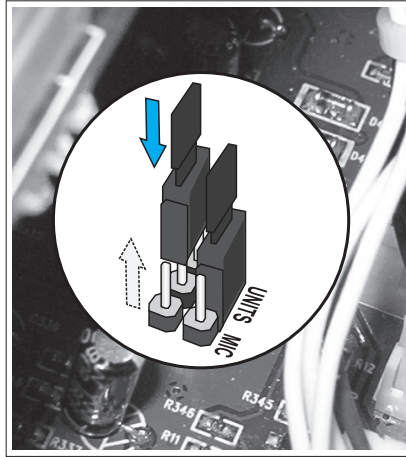

Fig. 4.10.1
- 2) Locate the two jumpers illustrated in Figure 4.10.1 and move them out of MIC position (factory default) to UNITS position: this will allow the audio signal coming from the microphone stations connected to the IN UNITS (22) socket to be diverted to output socket MIC.3.
- 3) Connect the 0V terminal of the amplifier to an external terminal 0V available on the terminal strip (33) of the equipment.
- 4) Connect the external amplifier 100V terminal to V IN of the terminal strip (13).
- 5) Collegare tramite cavo bilanciato la presa XLR MIC.3 (22) con la spina XLR dell'amplificatore esterno.
- 6) Abilitare tramite i dip-switches (16) la modalità di funzionamento con amplificatore esterno (vedere pag. 11).